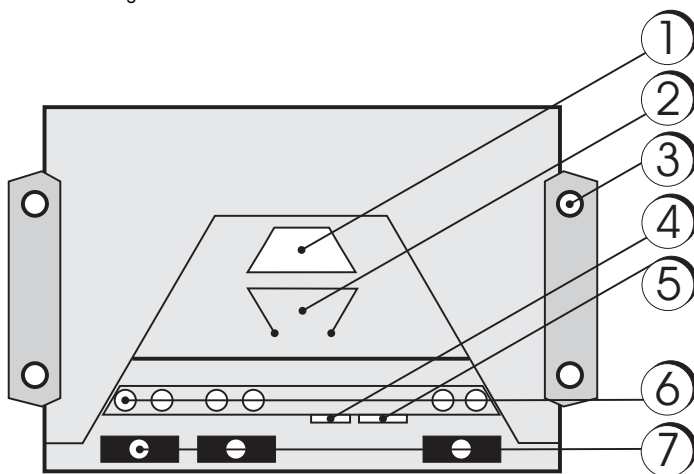
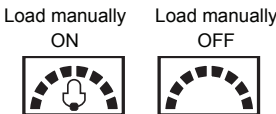

Figure 5 Overview Solar ChargeMaster
Figure 9: Load control
Figure 5 shows all serviceable parts of the Solar ChargeMaster.
A cross-head screw driver is all you need for the strain relieves, the screw terminals and the fastening screws for the housing. See also figure 5.
2. Remove the screws from the strain relief and take off the strain relief bridges. See figure 5 too.
3. Mount the controller to the wall. Use appropriate screws for the wall material. Use screws with 4 to 5 mm shaft and max. 10 mm head diameter, no counter sunk. See figure 5 for locating the mounting holes.
5. To avoid voltage at the load terminal, push the button (see figure 5) shortly to shut off the load output.
- During installation you switched off the load. Switching on is obtained manually with a short press of the button, see figure 9.
The button switch (number 1 on figure 5) has three push modes (see section 6.1:
In normal operation the loads can be switched on and off by pushing the button (figure 5). See figure 9 for the displays.